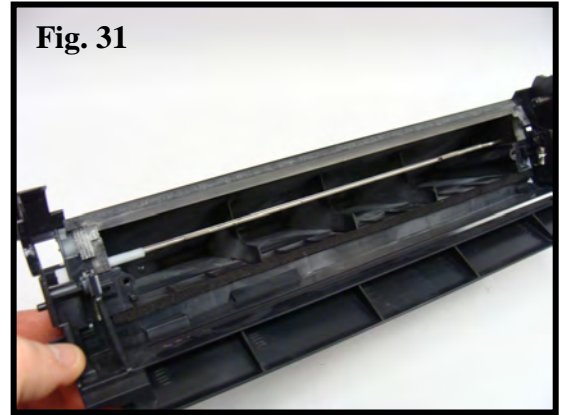

Fig. 31
31. Clean the waste section of all residual toner using compressed air (Fig. 31).